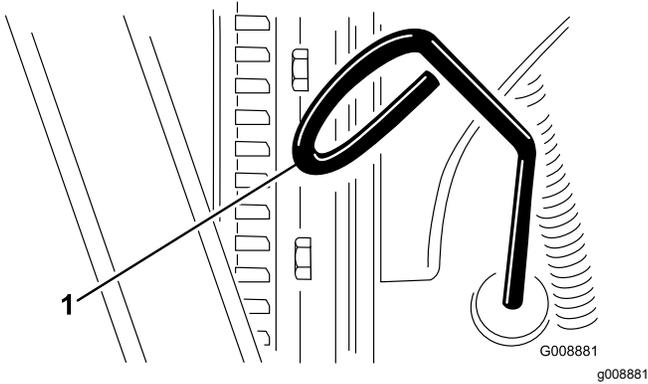

Figure 43
2. Remove the dipstick (Figure 43) and wipe it with a clean rag. Insert the dipstick into the tube and make sure that it is seated fully. Remove the dipstick and check the level-of-the-oil.